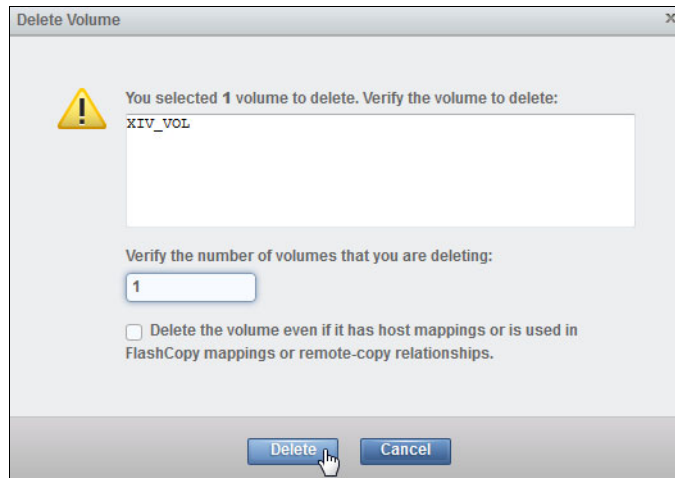

Figure 5-21 Delete Volume dialog window
2. To delete the volume, right-click it and select **Delete**, enter 1 for one volume, and click **Delete**, as shown in Figure 5-21.